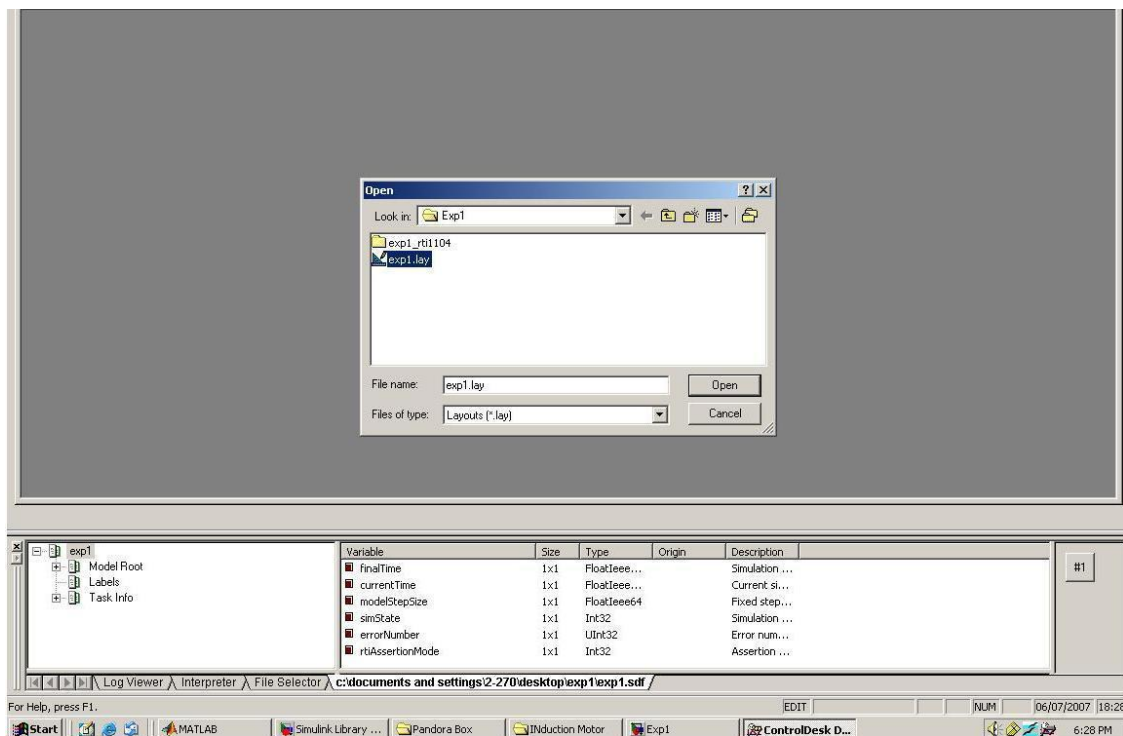
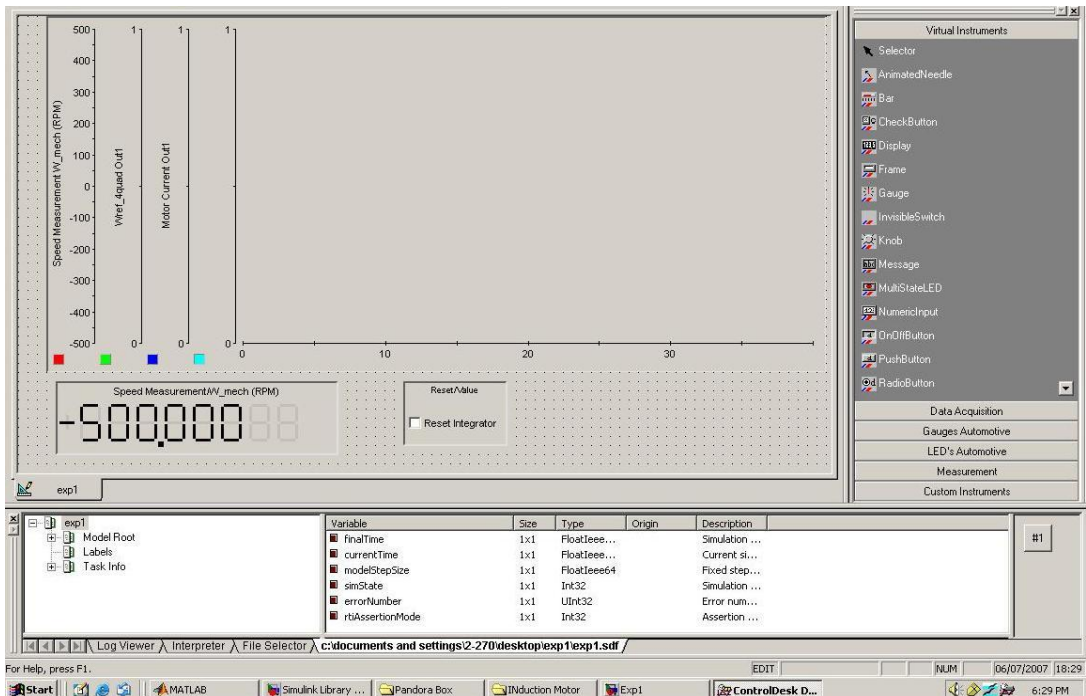
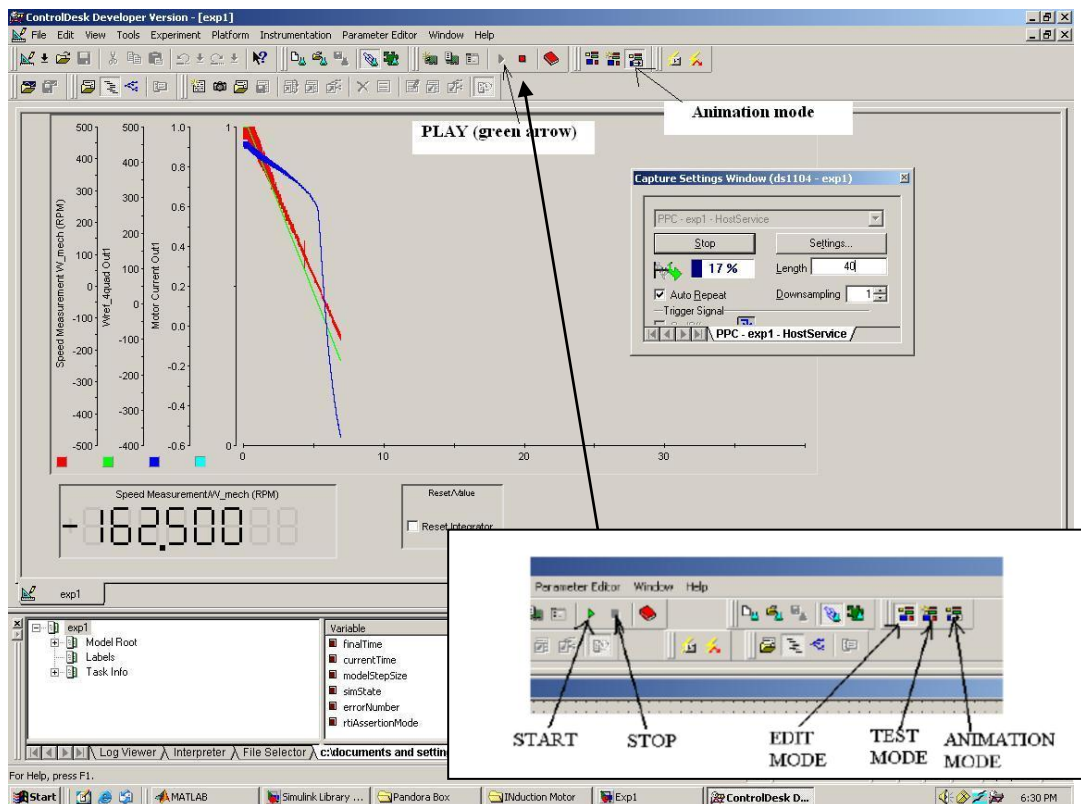
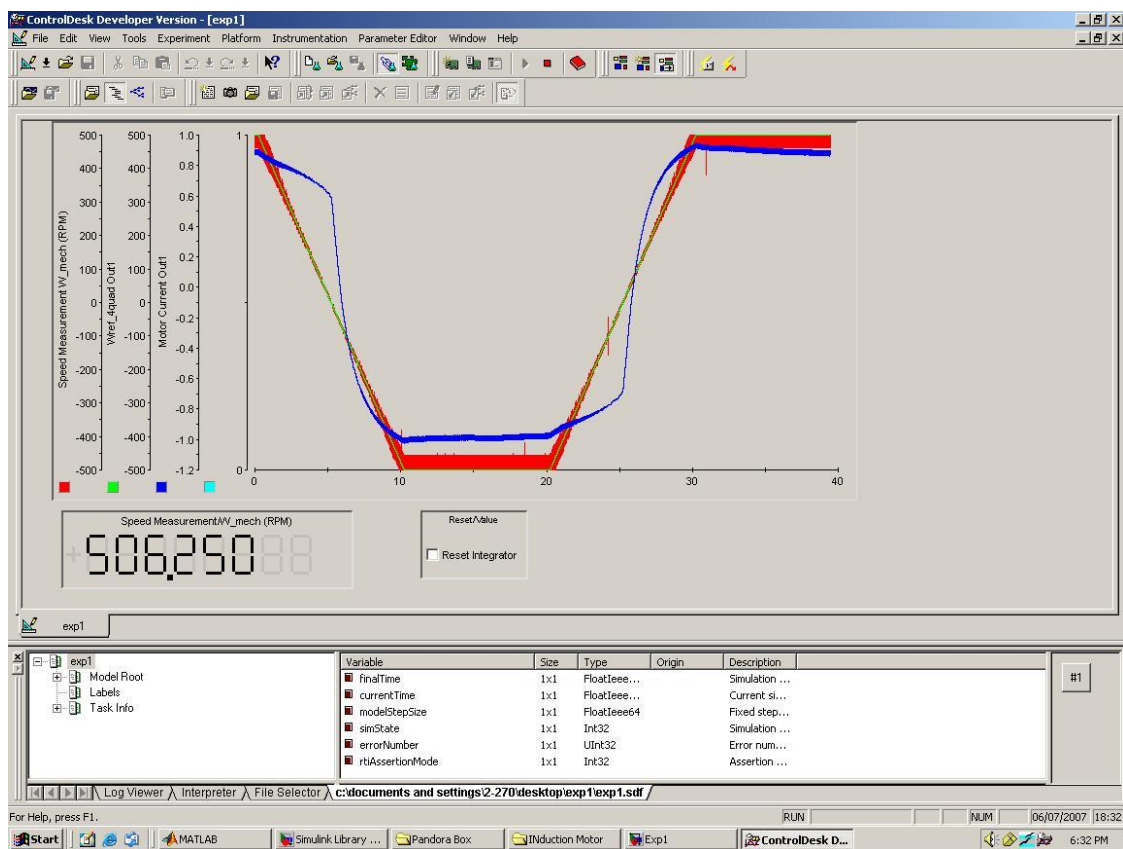

Figure 1.7: Control-desk panel, opening the layout
Figure 1.8: Control panel layout
Figure 1.9: Various control buttons, starting and stopping the system
Figure 1.10: Motor actual speed (red), reference speed (green) and phase current (blue)
double clicking on the **dSPACE ControlDesk** icon. The icon should be located on the desktop of the computer; the opened control-desk is shown in Fig 1.7 (ignore the lower panel window shown in Fig. 1.7 at this moment, and also the pop-up window showing Exp1.lay). Click **File->Open Variable File**. A pop-up window will appear, locate the **Exp1.sdf** file in the directory **Exp1** and click **Open**. Now you should be able to see the lower panel window shown in Fig 1.7. Click **File->Open**, the pop-up window will appear again asking for layout file this time. Locate the file **Exp1.lay** as shown in Fig 1.7 and click **Open**. Click **yes** if a pop-up box opens asking for data-connection. The layout thus opened should look as shown in Fig. 1.8. At this stage the control panel of the control-desk is ready to communicate or transfer data with DS1104 via CP1104. Click **Start (PLAY)** and switch to the **Animation mode**. The motor will start running. It will rotate in the positive direction for some time and in the negative direction for some time, i.e. the direction of rotation alternates. Right click on the graph and select **edit capture** setting, and set the capture setting as shown in Fig 1.9.
- You should be able to observe the speed of the motor on control panel (Fig. 1.9). The waveform for motor phase current, reference speed and actual speed is also shown. Press the button **Edit mode** and then press **STOP**. Take the waveform as shown in Fig 1.10. Study the explanations detailed next. The control-desk is able to access the following data with the help of **Exp1.sdf** file:
- The motor will receive the PWM voltage at its terminals and hence start rotating. It will speed up; the current in the winding will increase. Since the speed and the current of the motor thus increased are fed back to DS1104 in real-time, the DS1104 will take the next action as per **control-system**. DS1104 will change the pattern of digital signal to change the speed of the motor such that the motor will achieve the speed as commanded in the **control-system** (block **Wref\_4quad**). Note that, the speed command in **control-system** is alternating; hence the motor alternates its direction of rotation. The instantaneous motor speed and current is shown in Fig 1.10.